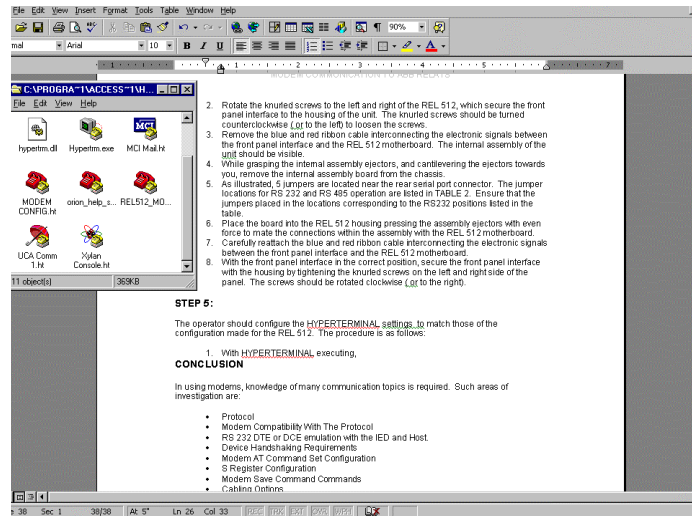

Figure 42 – Hyperterminal Selection Screen
1. Select HYPERTERMINAL from the WINDOWS menu to reveal the following screen illustrated in Figure 42.